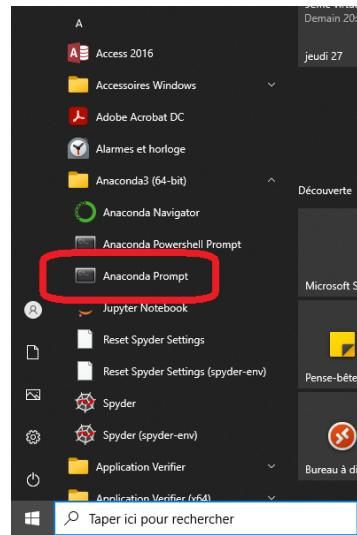

Figure 2: Anaconda prompt
2. **Install the package tclab** before the first laboratory session. Go to the anaconda prompt as shown in Figure 2 and type: “`pip install tclab`”